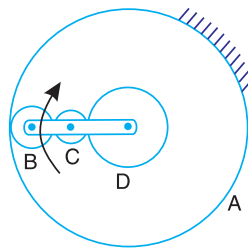

Fig. 13.35
6. An epicyclic gear train, as shown in Fig. 13.35, is composed of a fixed annular wheel  $A$  having 150 teeth. The wheel  $A$  is meshing with wheel  $B$  which drives wheel  $D$  through an idle wheel  $C$ ,  $D$  being concentric with  $A$ . The wheels  $B$  and  $C$  are carried on an arm which revolves clockwise at 100 r.p.m. about the axis of  $A$  and  $D$ . If the wheels  $B$  and  $D$  have 25 teeth and 40 teeth respectively, find the number of teeth on  $C$  and the speed and sense of rotation of  $C$ . [Ans. 30 ; 600 r.p.m. clockwise]